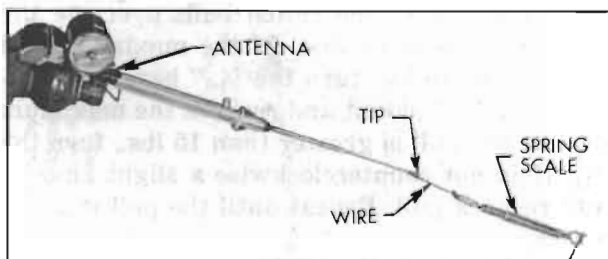

Figure 11-18—Antenna Ready for Adjusting Test
3. Connect one end of a wire securely to the mast just below the tip and the other end to a 25 lb. capacity spring scale. Secure the spring scale to the bench so that the center line of the scale is in line with that of the mast assembly. See Figure 11-18.